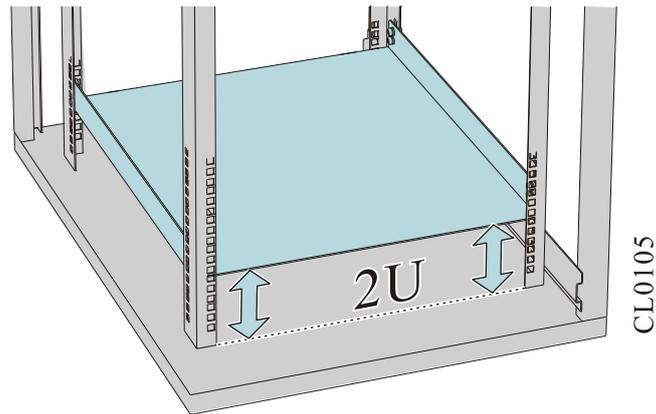

Figure 3-4 The minimum height of the tray
- Ensure that the distance between the tray and the bottom cabinet is 2U and three holes on the square hole bar is 1U, as shown in Figure 3-4.